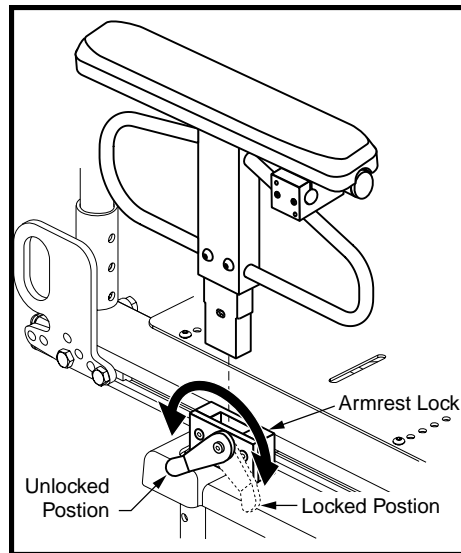

Figure 7. Armrest Removal
1. Rotate the armrest lock lever rearward. See figure 7.
1. Place the armrest assembly into the armrest lock. See figure 7.
NOTE: *Both the adult and pediatric Quick Height Adjustable Drop-in armrests use the same armrest lock as the Heavy Duty Drop-in armrests. The procedures for removal and position adjustment are the same. See figures 7 and 8.*